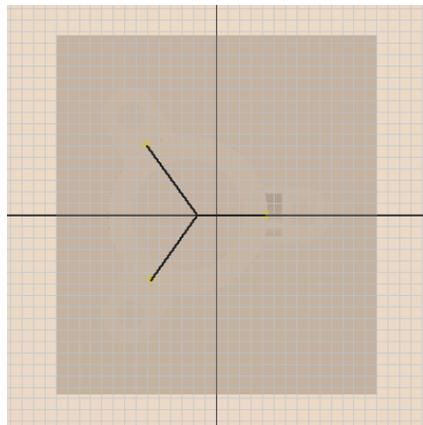

Figure 19-60 Sketch for the runner
3. Create the runner sketch, as shown in Figure 19-60, using the Top view orientation.